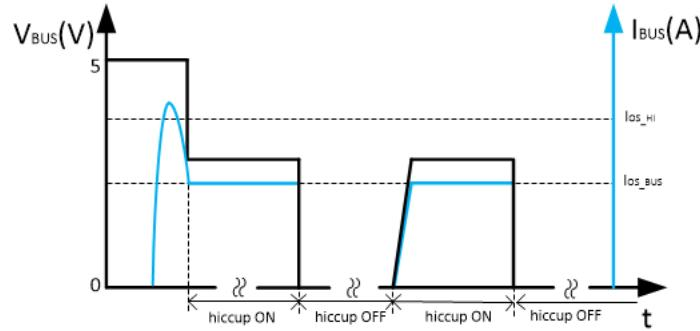

图 10-13. BUS Overcurrent Protection: Two-Level Current Limit
- The third condition is the load current increases above the I_{OS_HI} setting. In this case, the USB power switch current limit threshold is set back to the primary current limit, I_{OS_BUS} , immediately. If the load still demands a current greater than I_{OS_BUS} , the USB output voltage decreases to $I_{OS_BUS} \times R_{LOAD}$ for a resistive load, which is shown in 图 10-13. If the overcurrent limit condition lasts longer than 4.1 ms, the corresponding USB channel enters hiccup mode with 524 ms of off-time and 4.1 ms of on-time. Another USB channel still works normally.